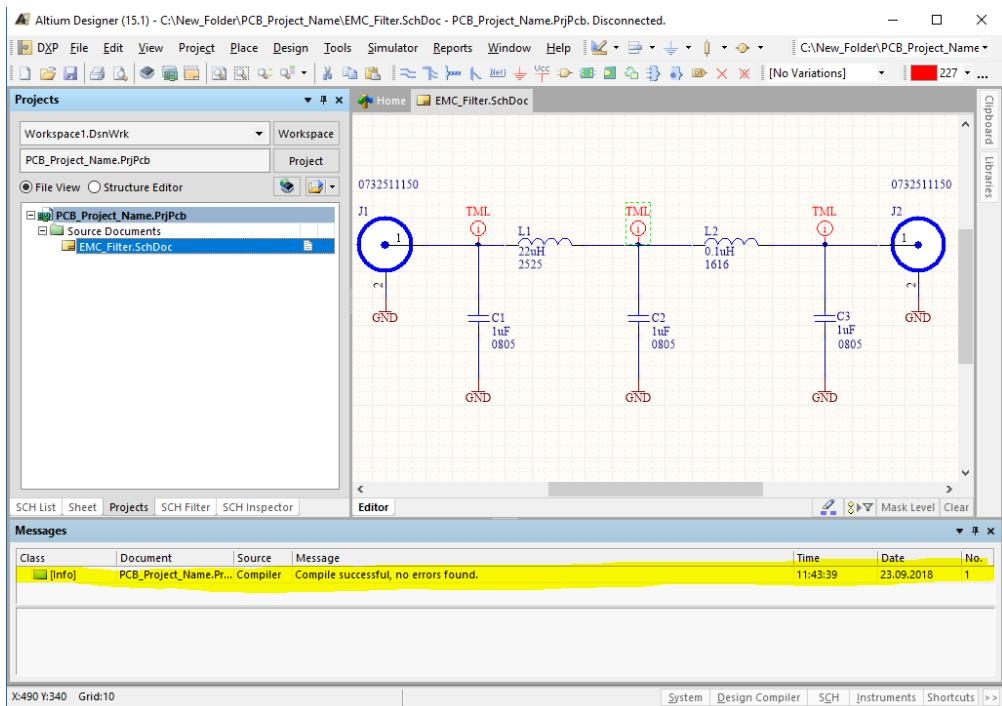

Figure 66: Altium Compile schematic document Message output.
39. Altium has a build in compiler that checks for rules violations as wire shorts or wires they would act as an antenna because they are not connected to, as examples. Press **CTRL+S** to save your schematic document. Press right click on the schematic sheet document chose **Compile Document** [**your Document name**] to compile the document. The compiler out put is shown in the Message view as shown in Figure 66. With a successful compile process the schematic is finished proceed with the PCB Layout sub section 3.3